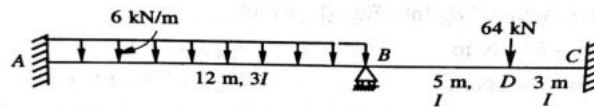

Figure 1.
3. Analyze the continuous beam shown in figure 1, by using slope deflection method for (i) unyielding supports and (ii) yielding supports which permit a downward settlement of $48/EI$ at B. [14M]